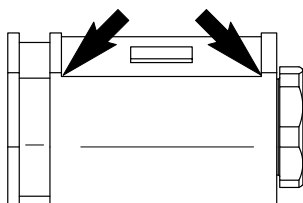

Fig. 42    Piston shown without seal and sliding plate
**NOTE:** To ensure that the sliding plate lines up properly, the inside edges (arrow, Fig. 42) have to be clean.